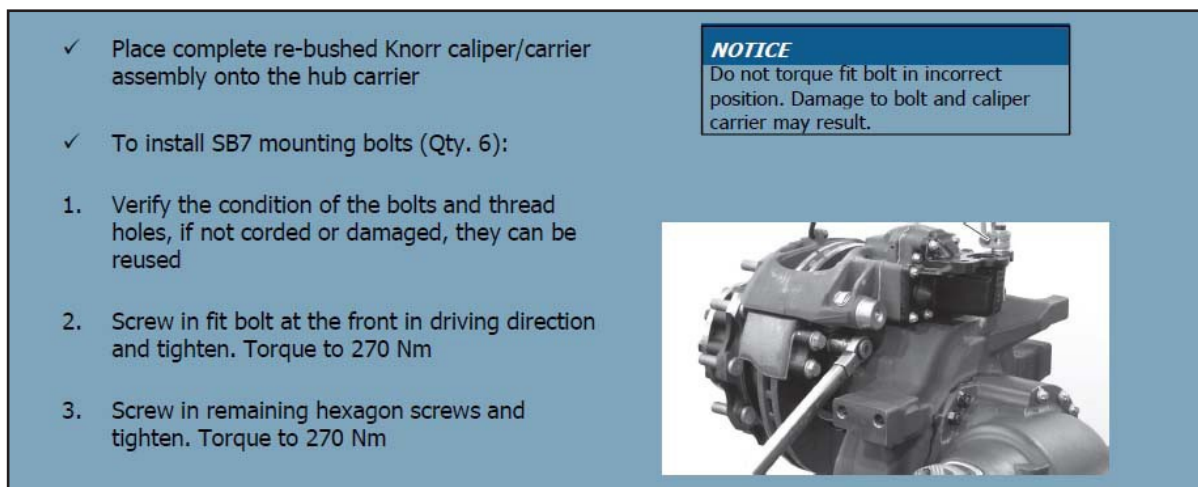

Figure 12 - Install the New Brake Caliper
1.13. Install the new Knorr brake caliper (see Figure 12).